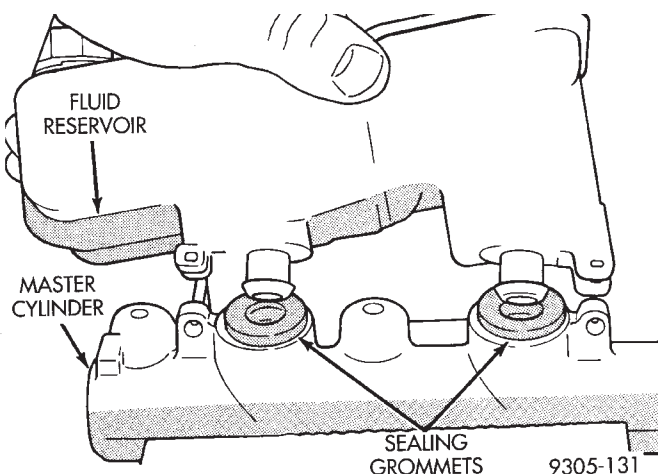

Fig. 5 Removing Reservoir
(5) Rock reservoir from side to side and remove from master cylinder housing (Fig. 5).